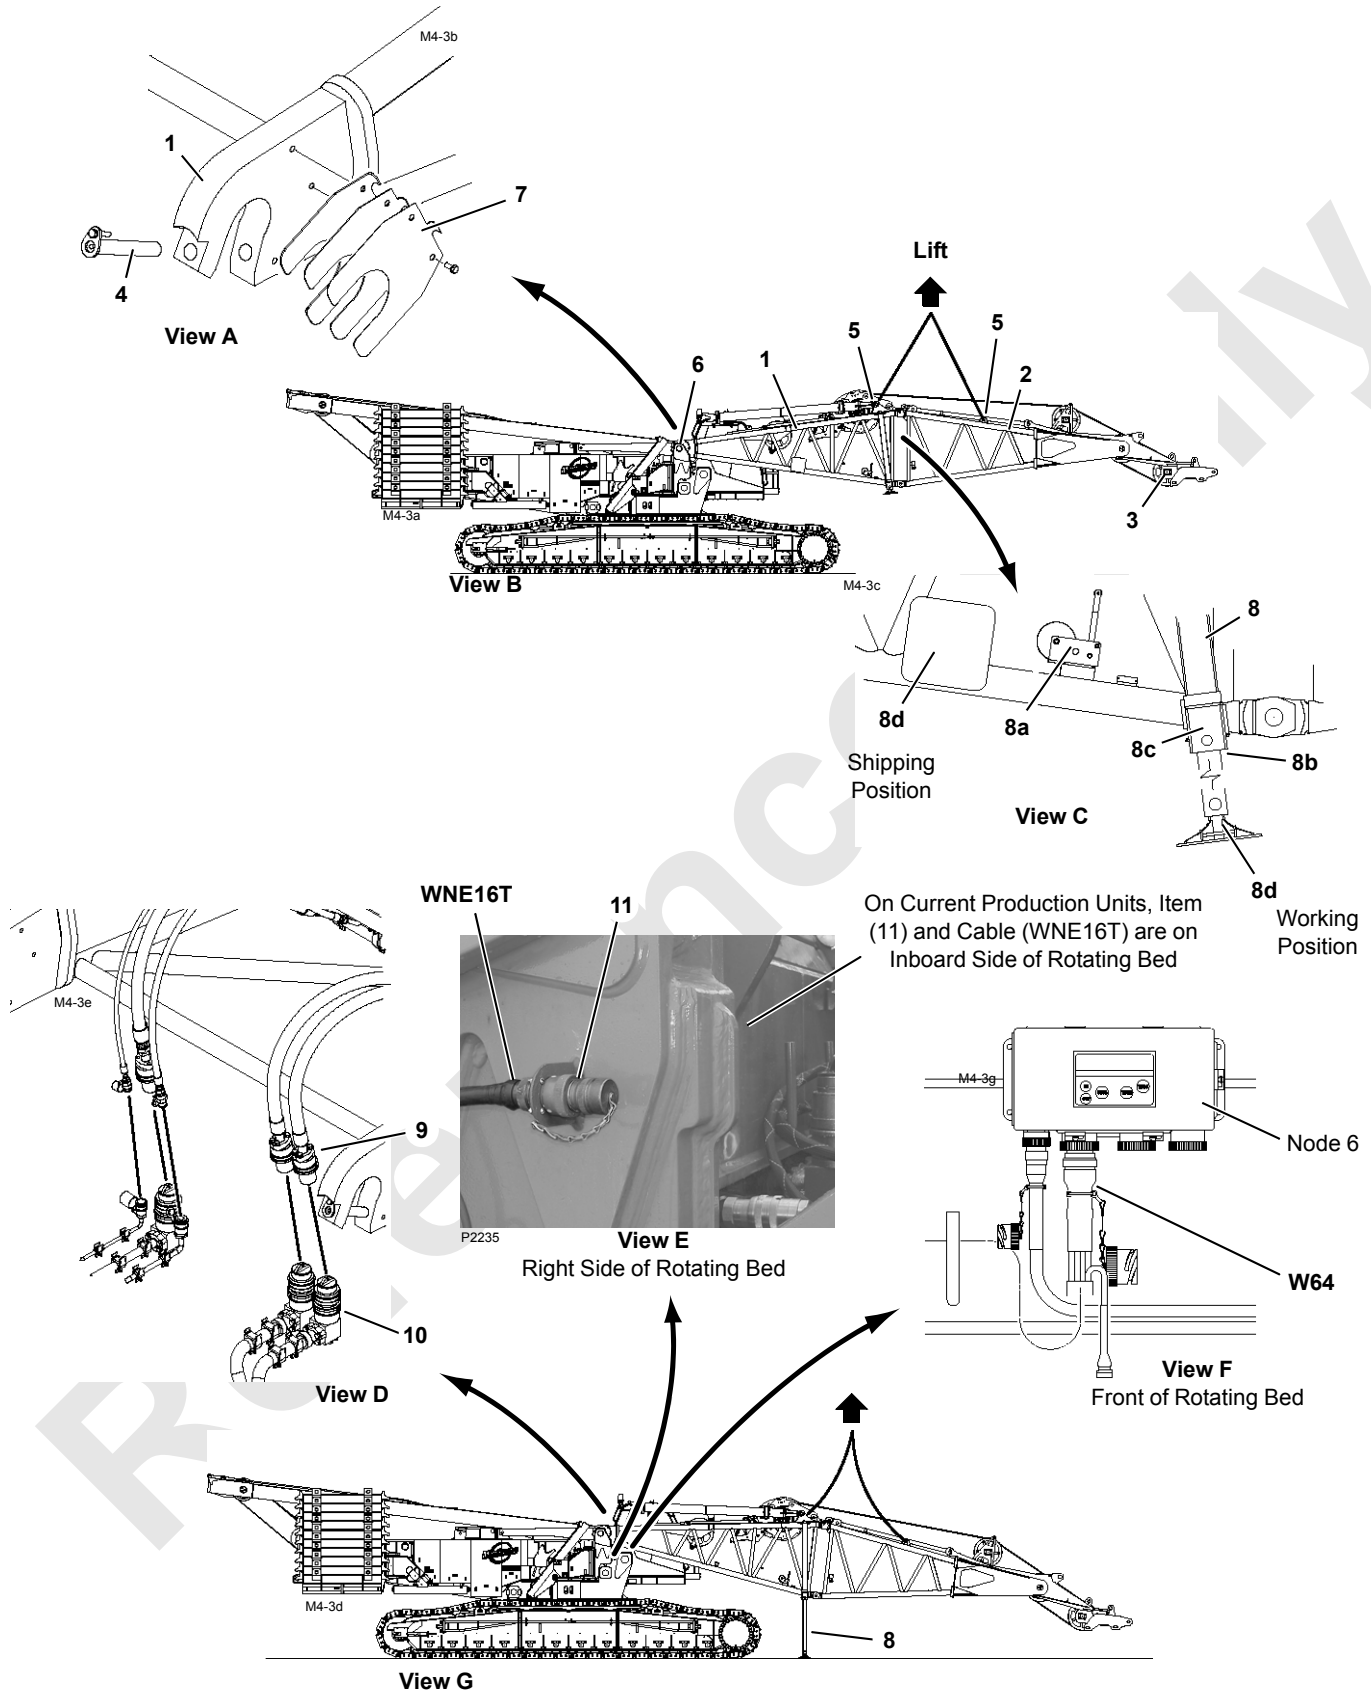

FIGURE 4-3
**NOTE** The engine will not start when the boom is removed until shorting plug (11, View E, Figure 4-3) is connected to electric cable (WNE16T).
Legend for Figure 4-3
See Figure 4-3 for the following procedure.
6. Store mast supports (see Figure 4-3, View C):